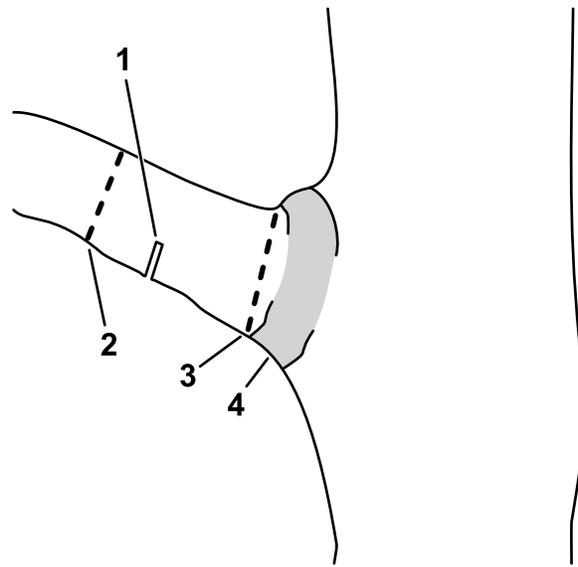

Figure 14
- C. Cut the limb stub at the branch collar (Figure 14).